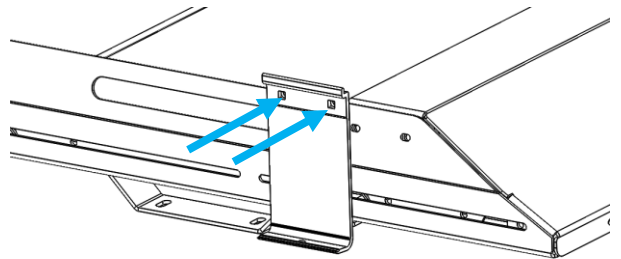

Figure 4: Manufacturer's Awning Bracket Installation
5. Attach the awning manufacturer's brackets to the modular roof rack brackets using the provided  $\frac{1}{4}$ "-20 x  $\frac{3}{4}$ " bolt, washer, and nut as shown in Figure 4.